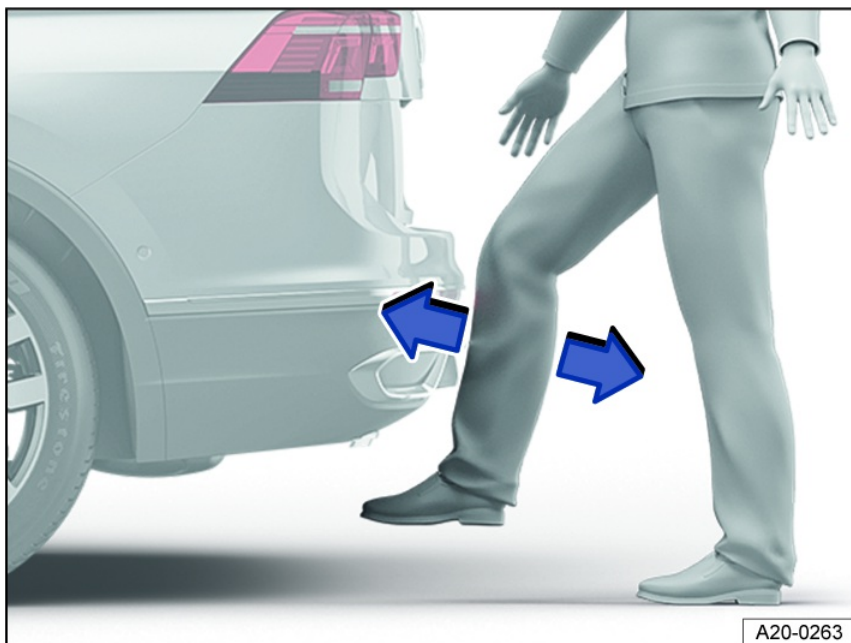

Fig. 68 General example of the sensor-controlled luggage compartment opener (Easy Open).
2. Quickly swing the lower part of your leg close to the bumper fig. 68.